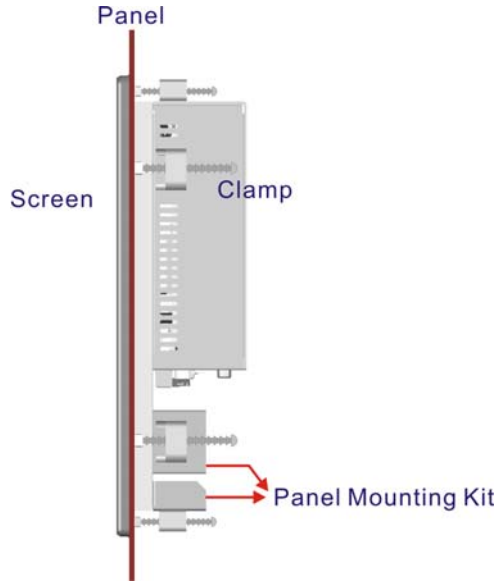

Figure 3-28: Tighten the Panel Mounting Clamp Screws (2901250)
- Step 6:** Tighten the screws that pass through the panel mounting clamps until the plastic caps at the front of all the screws are firmly secured to the panel (**Figure 3-28**).